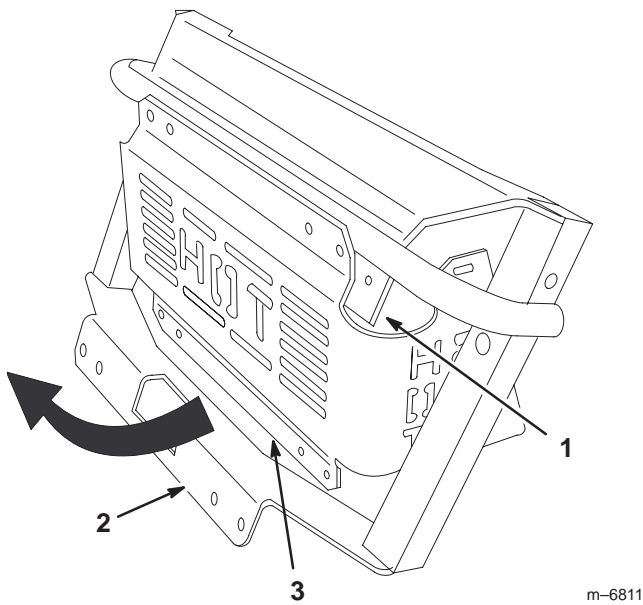

Figure 6
- With the bagger bar in the heat shield notches, push the bottom of the heat shield towards the rear and past the back of the bagger bracket (Fig. 6).